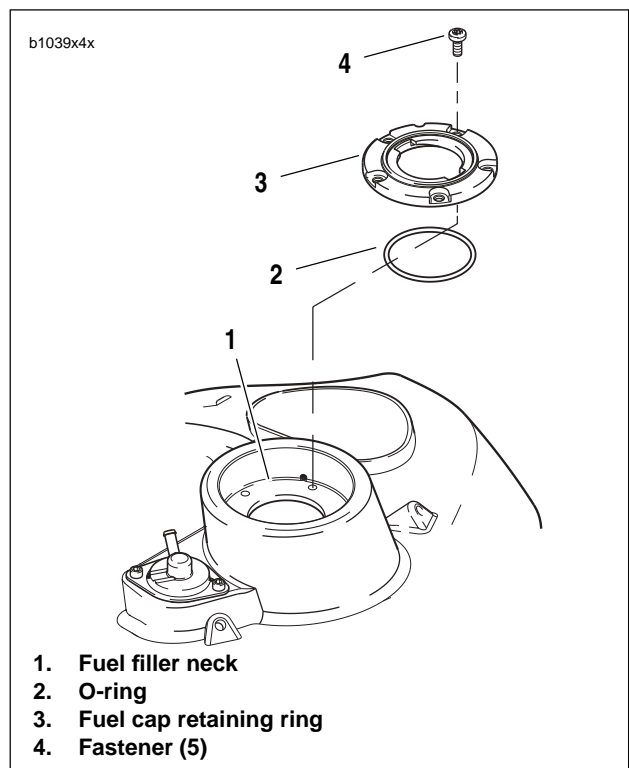

Figure 4-209.
3. See Figure 4-209. Remove fasteners (4) securing fuel cap retaining ring (3) to fuel filler neck (1).
4. Remove fuel cap retaining ring and o-ring (2). Discard o-ring.